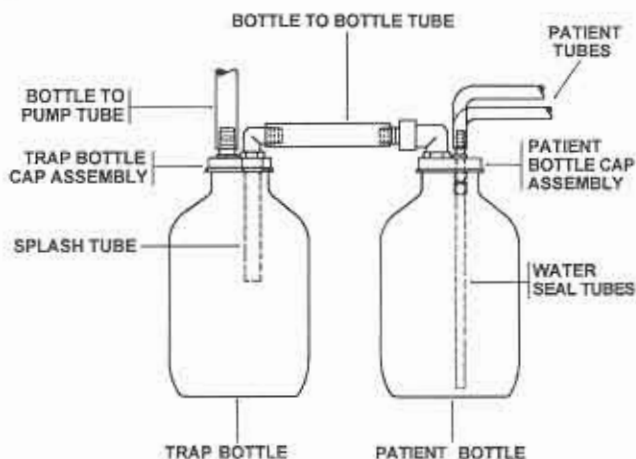

Figure 2-3. Patient drainage system.
c. Tubing (fig 2-3).
- (1) Connect the bottle to pump tube from the trap bottle cap assembly to the vacuum pump swivel connector located on the underside of the control/pump module.
- (2) Install the bottle to bottle tube between the patient bottle swivel connector and the barb connector on the trap bottle.
- (3) Connect each patient tube onto the patient bottle cap assembly.